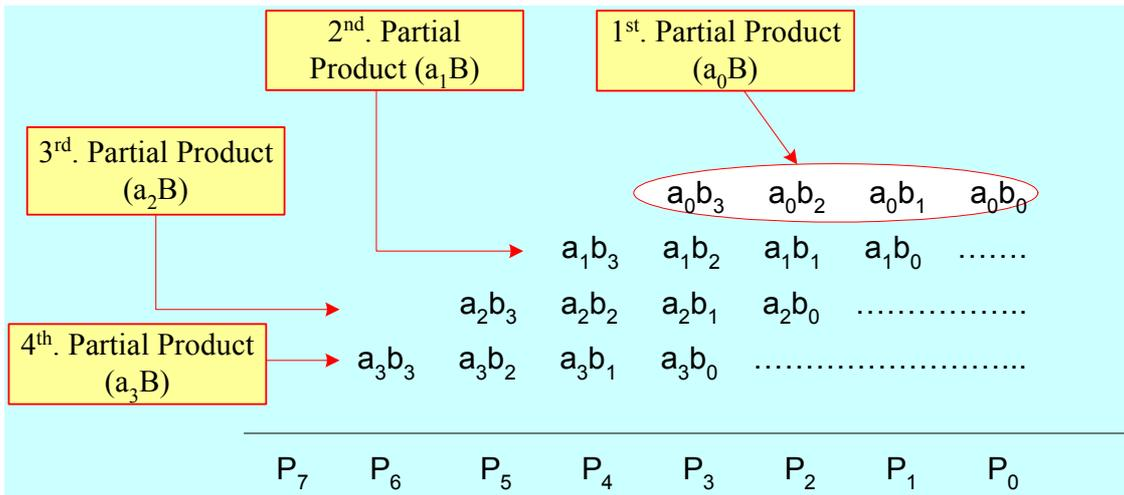

Figure 2: Binary Multiplication
As in hand multiplication (see Figure 2), we multiply the bits of the multiplier A ($a_3a_2a_1a_0$) by the multiplicand (B) starting from the LSB (a_0) to the MSB (a_3). This forms 4 partial products a_0B , a_1B , a_2B , and a_3B . The resulting partial products are added with each product shifted left by one bit position from its predecessor as shown in Figure 2.